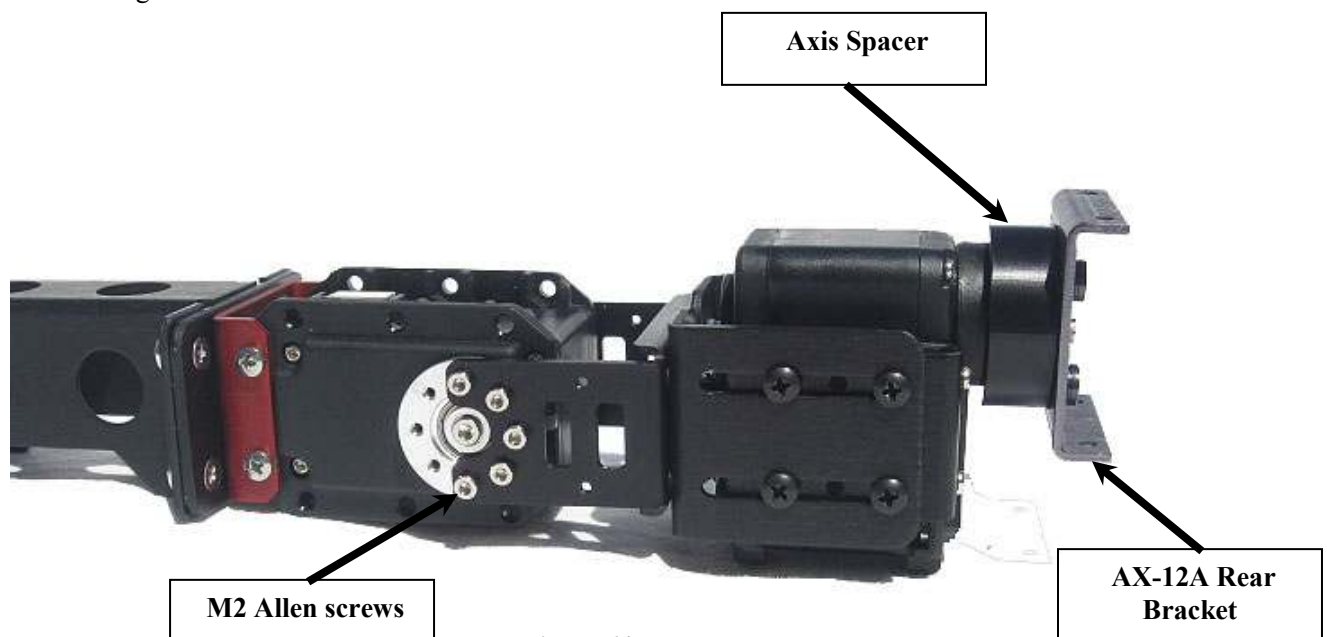

Figure 64
5. Using (4) M2 14 mm screws, install the axis spacer and AX-12A rear bracket from the dual gripper assembly to the servo as shown in figure 64.
6. Using the M2 allen screws, install the assembly to the previous axis in your build sequence as shown in figure 64.